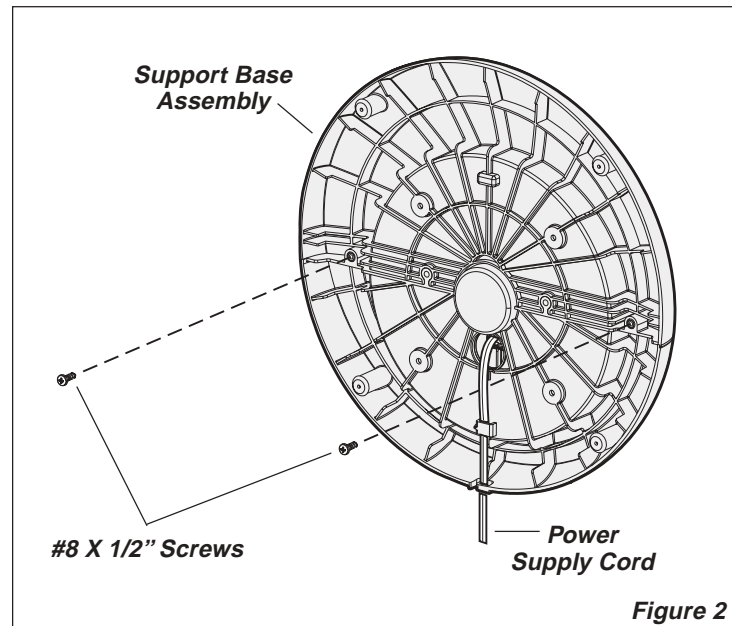

Figure 2
3. Secure (2) #8 X 1/2" Screws into the two outer holes in the bottom of the **Base**. (Figure 2)